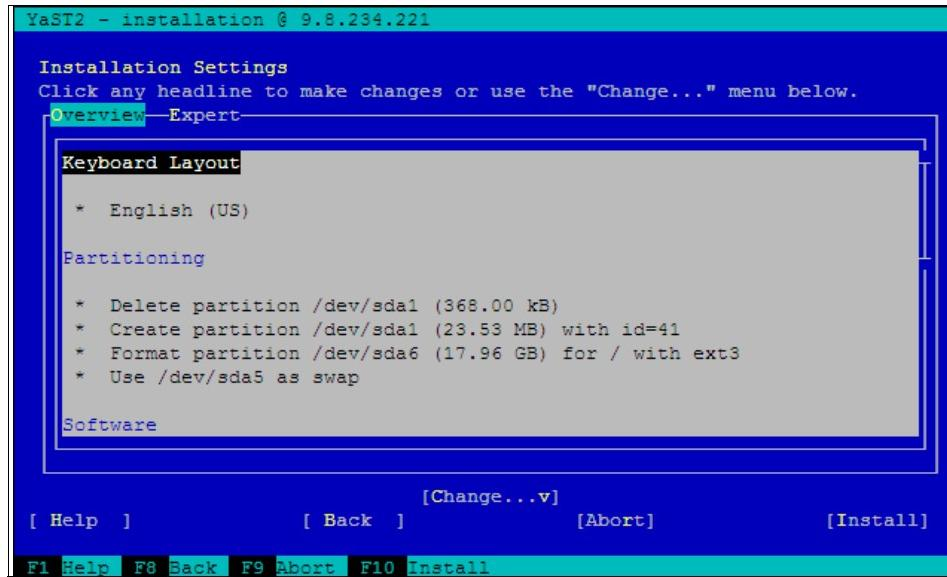

Figure 9-20 Installation Settings
14. The Installation Settings window provides the Keyboard layout, Partitioning information, Software installation options, and the install Language configuration. Select the [Change...] option to edit any of these fields. Select [Accept] when these settings are complete, as shown in Figure 9-20 on page 382.